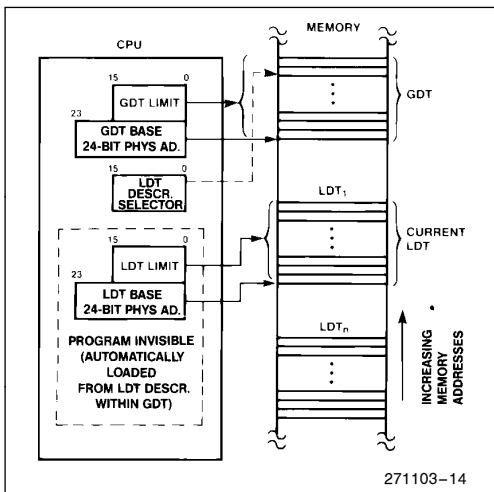

Figure 16. Local and Global Descriptor Table Definition
Two tables of descriptors, called descriptor tables, contain all descriptors accessible by a task at any given time. A descriptor table is a linear array of up to 8192 descriptors. The upper 13 bits of the selector value are an index into a descriptor table. Each table has a 24-bit base register to locate the descriptor table in physical memory and a 16-bit limit register that confine descriptor access to the defined limits of the table as shown in Figure 16. A restartable exception (13) will occur if an attempt is made to reference a descriptor outside the table limits.
The LDT instruction loads a selector which refers to a Local Descriptor Table descriptor containing the base address and limit for an LDT, as shown in Figure 16.